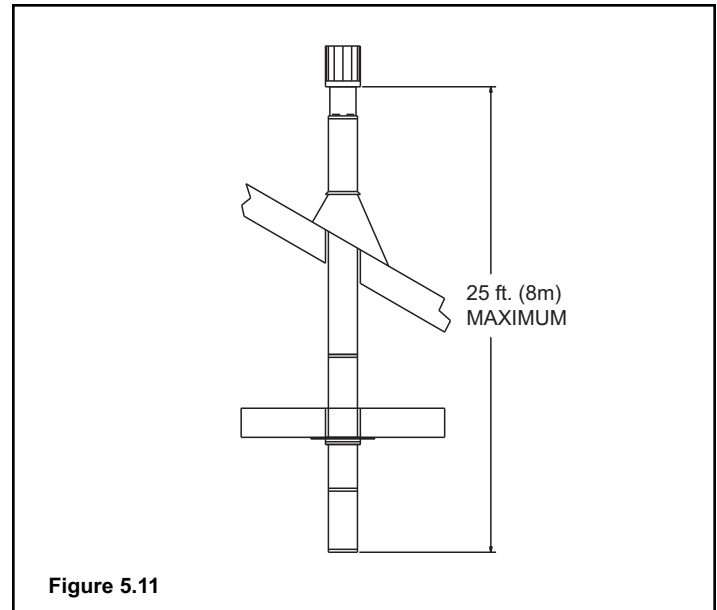

Figure 5.11
**NOTE:** Maximum vertical rise allowable is 25 ft. (8m) **Figure 5.11**).